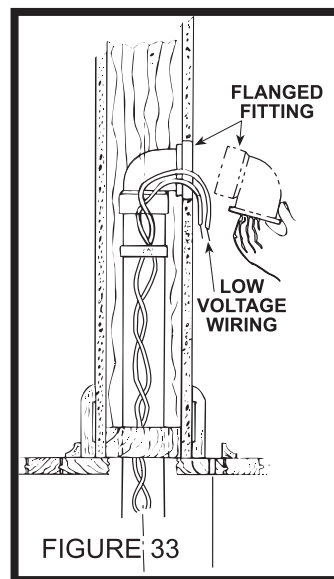

FIGURE 33
3. Apply cement to tube and install flanged wall fitting. Make sure fitting is well seated and sealed (Figure 33).